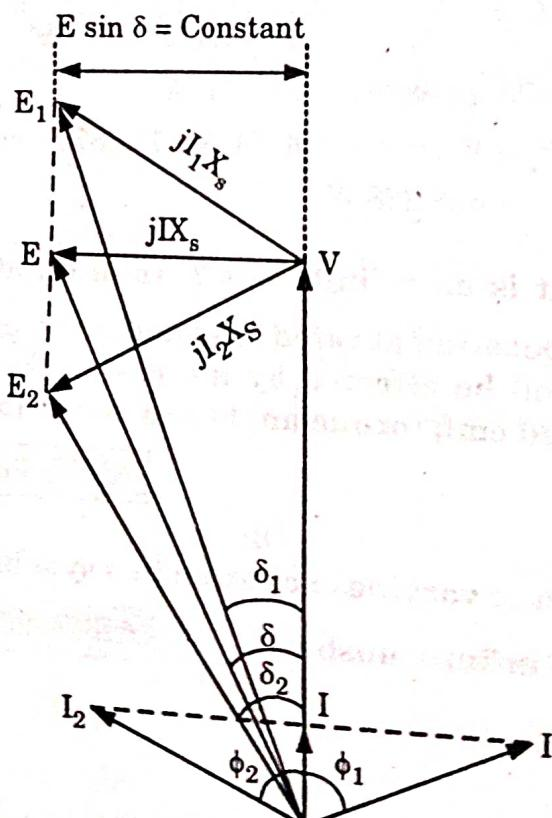

Fig. 1.26.1.
- Similarly if the excitation is decreased so that induced emf reduces from  $E$  to  $E_2$  with corresponding change in power angle from  $\delta$  to  $\delta_2$ . The armature current in this case will be  $I_2$  which has real component and magnetizing component which results in leading power factor  $\cos \phi_2$ . This can be represented in the phasor diagram shown in Fig. 1.26.1.
8. This indicates that power delivered to the bus will remain constant. Thus by changing the field excitation the active power is unaltered. But change in excitation results in corresponding operating power factor as shown in Fig. 1.26.1.